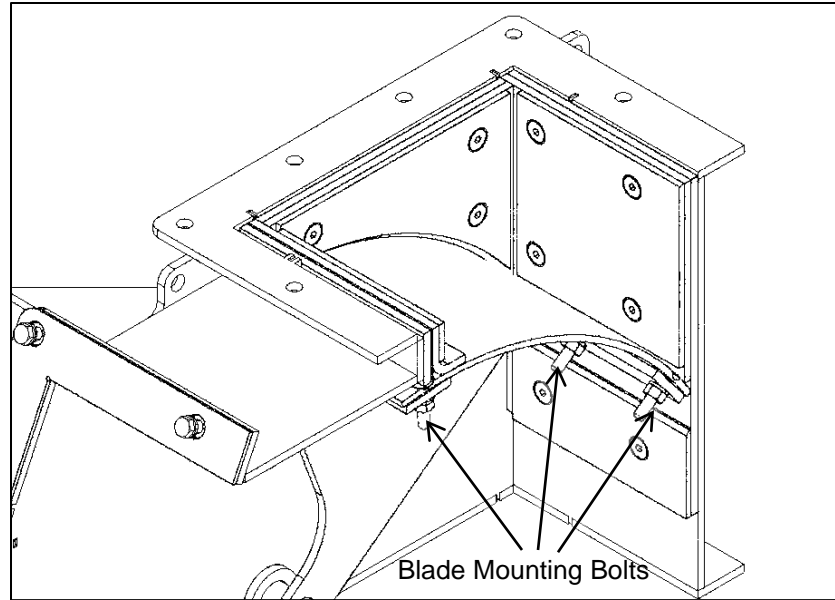

Figure 7: Blade Removal
5. Remove the blade (**Figure 7**) by removing the bolts that secure the curved blade to the blade arms. The bolts nearest the inspection panel must be removed from the retract area of the gate. The bolts nearest the forward wall of the gate must be removed from the product area.